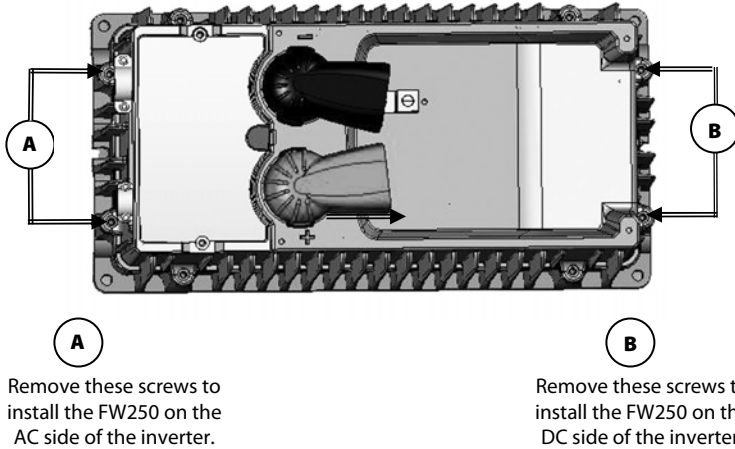

Figure 6 Preparing the FX Inverter for the FW250
3. Using a 5 mm hex key, remove the two M5 × 12mm screws that secure the FX upper and lower casing halves. Remove only the screws on whichever side (AC or DC) you first install the FW250. See Figure 6.